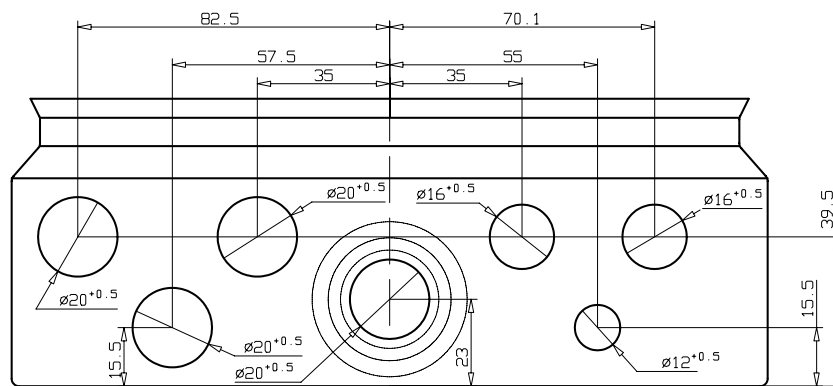

Fig. 4
8.0 WIRING (Refer to Fig. 4 + 5)